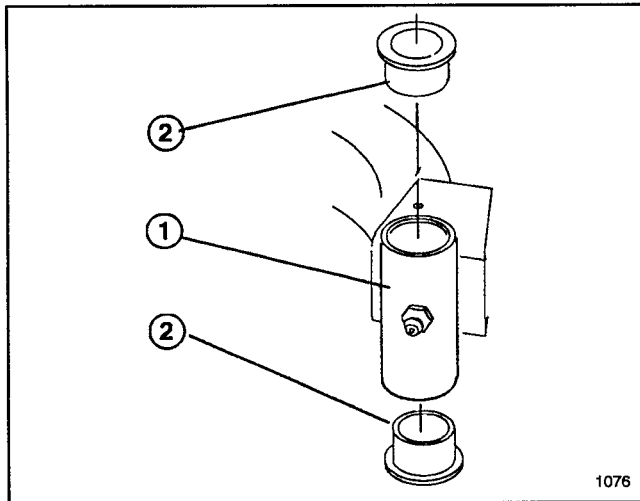

Figure 20
2. Remove lynch pin and thrust washer(s) from top of castor spindle (Fig. 20).
4. Insert pin punch into mounting tube and drive out bushings (Fig. 20). Clean inside mounting tube.